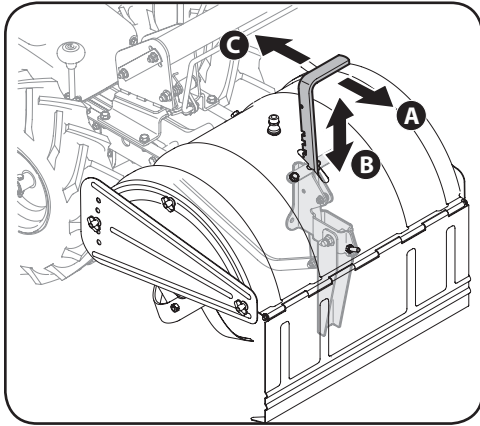

Figure 4-3
1. Pull back on the depth adjustment lever (A), move the lever up or down into the desired tilling depth (B) and move back forward to lock into place (C). See Figure 4-3.
2. When using the tiller for the first time, use the second adjustment slot from the top. See Figure 4-3.